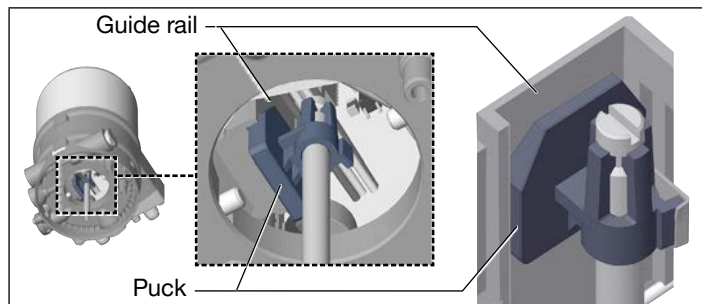

Fig. 10: Aligning the puck
- Place type 8692/8693 onto the actuator. In doing so, align the puck of the actuator with the guide rail of type 8692/8693 (see “Fig. 10”).